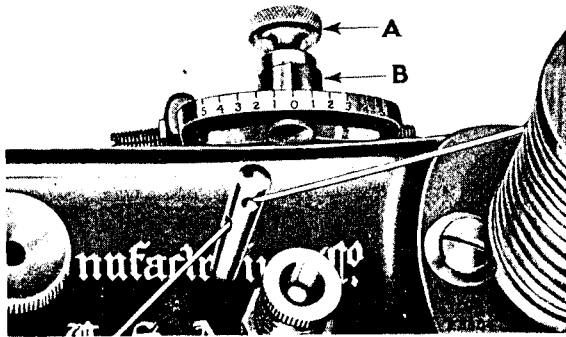

Fig. 16. Adjustment for Regulating the Width of Sideway Stitch.
The width of the sideway stitch is regulated by the lever (B, Fig. 16) at the back of the machine. When this lever is set
in line with zero on the slotted position bracket, the machine will make straightaway stitches only. To make the sideway stitches to the left of centre line, loosen the thumb nut (A, Fig. 16) and move the lever (B) to the left until the desired width of stitch is obtained. To make the sideway stitches to the right of centre line, move the lever (B) to the right until the desired width of stitch is obtained. When the desired width of stitch is obtained, securely tighten the thumb nut (A).
On Machine 107 w 12, set the needle vibrating lever (B, Fig. 16, page 14) at zero on the slotted position bracket. Turn the balance wheel until the needle has reached the bottom of its stroke; bring the point of the sewing hook exactly to the centre of the needle and adjust the needle bar until the eye of the needle is about $\frac{1}{16}$ inch below the point of the hook.